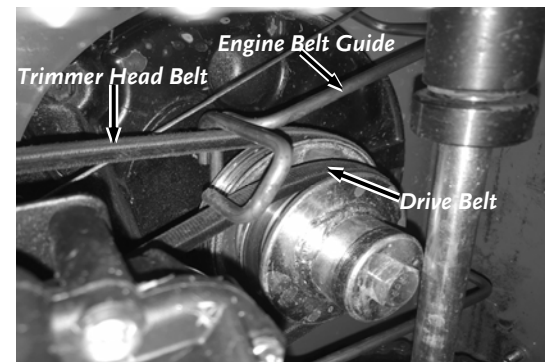

Figure 36a
**Note:** Ensure that the Belts are positioned properly in reference to the Belt Guides (**Figure 36a**).